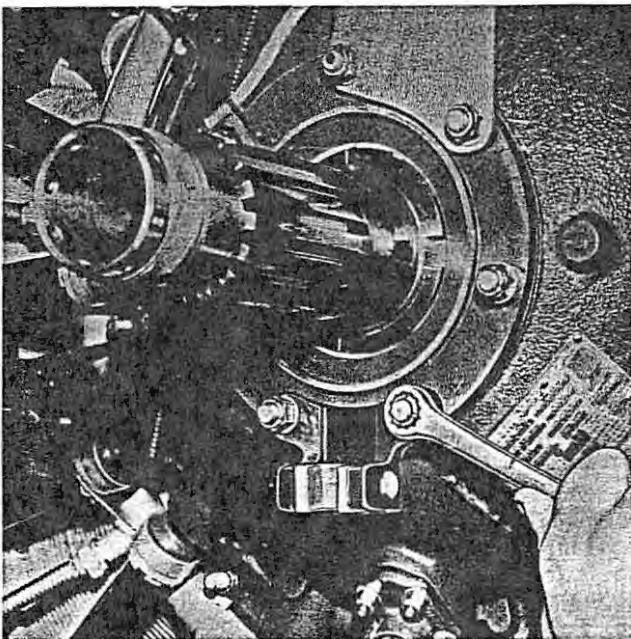

Figure 5-53. Installation of Adapter Stop Assembly
1. Remove the nuts and spacers from the engine nose thrust plate at the six o'clock position. Install the adapter stop assembly. Replace the nuts and tighten properly. See figure 5-53.